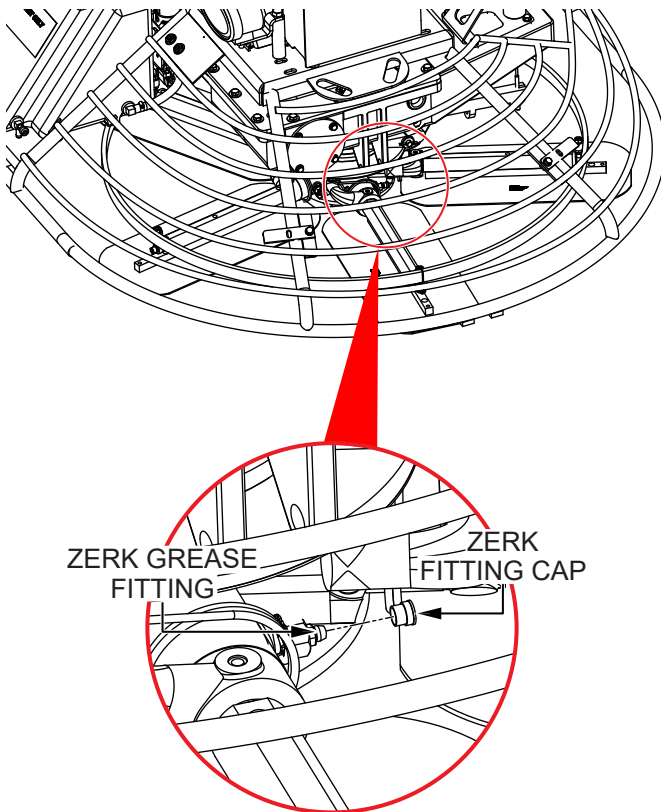

Figure 26. Spider Lubrication
1. Locate one of the Zerk grease fittings on either spider assembly (Figure 26). Remove the Zerk fitting cap and set it aside.